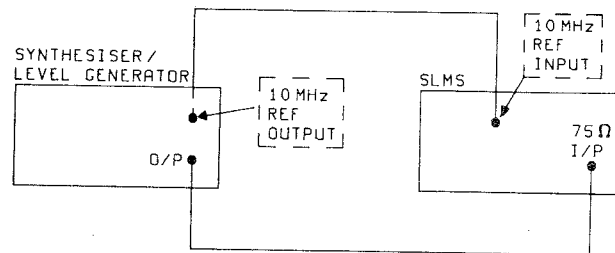

Figure 4-5 Measurement Accuracy Test Set-up (2)
13. Connect the test equipment as shown in Figure 4-5.